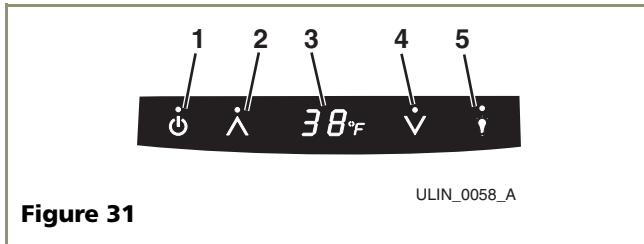

Figure 31
2. Open the top drawer. Press and hold the **POWER** icon to turn the unit **OFF**. (see **Figure 31,1**)
Once installation and leveling is complete, the unit is ready for initial start-up and operation. Open the top drawer, press and hold the **POWER** icon (see **Figure 31, 1**) on the display panel for approximately ten seconds until the °F symbol flashes and release.
The electronic control with digital display (**Figure 31**) is located in the top drawer. It is configured to show a single temperature continuously. This set-point temperature is a base number used by the controller to maintain the temperature zone in your unit. The factory set-point is 38°F for the top drawer which will show when the unit is first powered up. The factory set point for the ice compartment is 0°F.